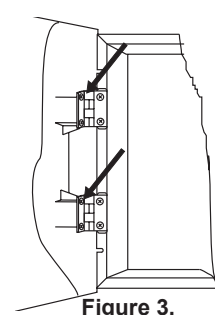

Figure 3.
- Remove the front panel by undoing the screws of the hinges - Figure 3. **(NB. The screws at the metal bottom can also be undone. What is special here is that there are two plastic pads under the every hinge. These pads need to be placed back again under the hinges when mounting the front panel.)**
- Perform an exposed or flushed mounting (option) - see items 3.1 and 3.2.